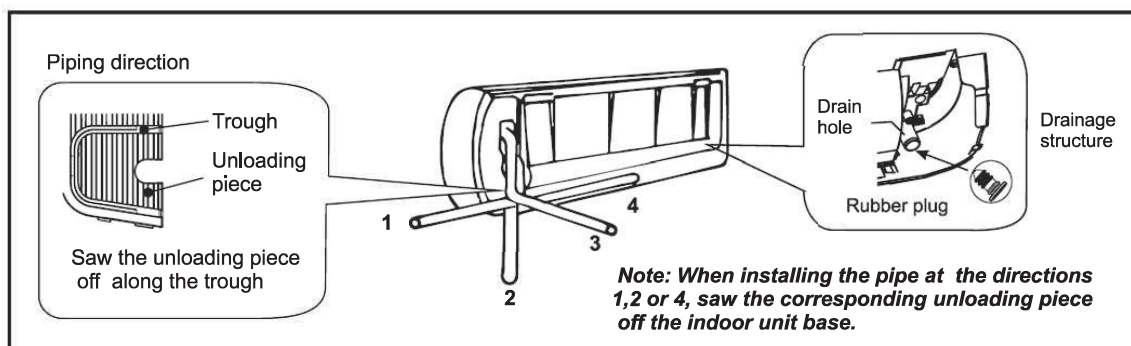

Fig. 3
- 2) Decide whether to saw the unloading piece off in accordance with the piping direction. (Fig. 3)